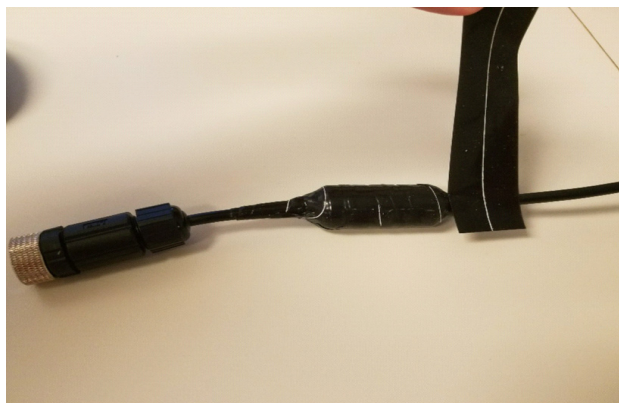

Figure 5-12. Wrapping the 4 IN Silicon Tape
- Wrapping the two 4 IN tape—Use both the 4 IN pieces to seal both ends of the insulated area from the 16 IN piece of tape. Stretch the tape approximately 2/3 its normal width. The tape must be wrapped onto itself to seal the end of the insulation and to ensure a tight adhesion at the ends of the tape. See Figure 5-12.